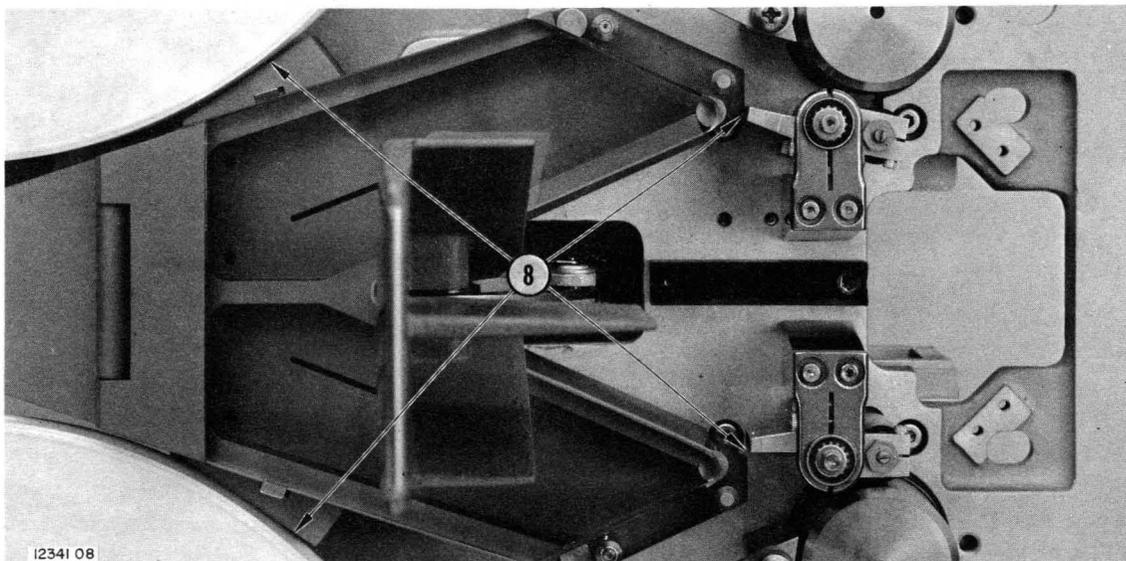

Figure 5-11. Adjusting Vacuum Chamber Alignment
- Step 8: See Figure 5-11. Position vacuum chamber in horizontal plane. Be sure that vacuum chamber does not interfere with rotation of reels on left or capstan roller yokes on the right. At the same time, position vacuum chamber in the vertical plane so that tape passes between capstan roller and capstan without touching either. (Refer to Step 4 above.)